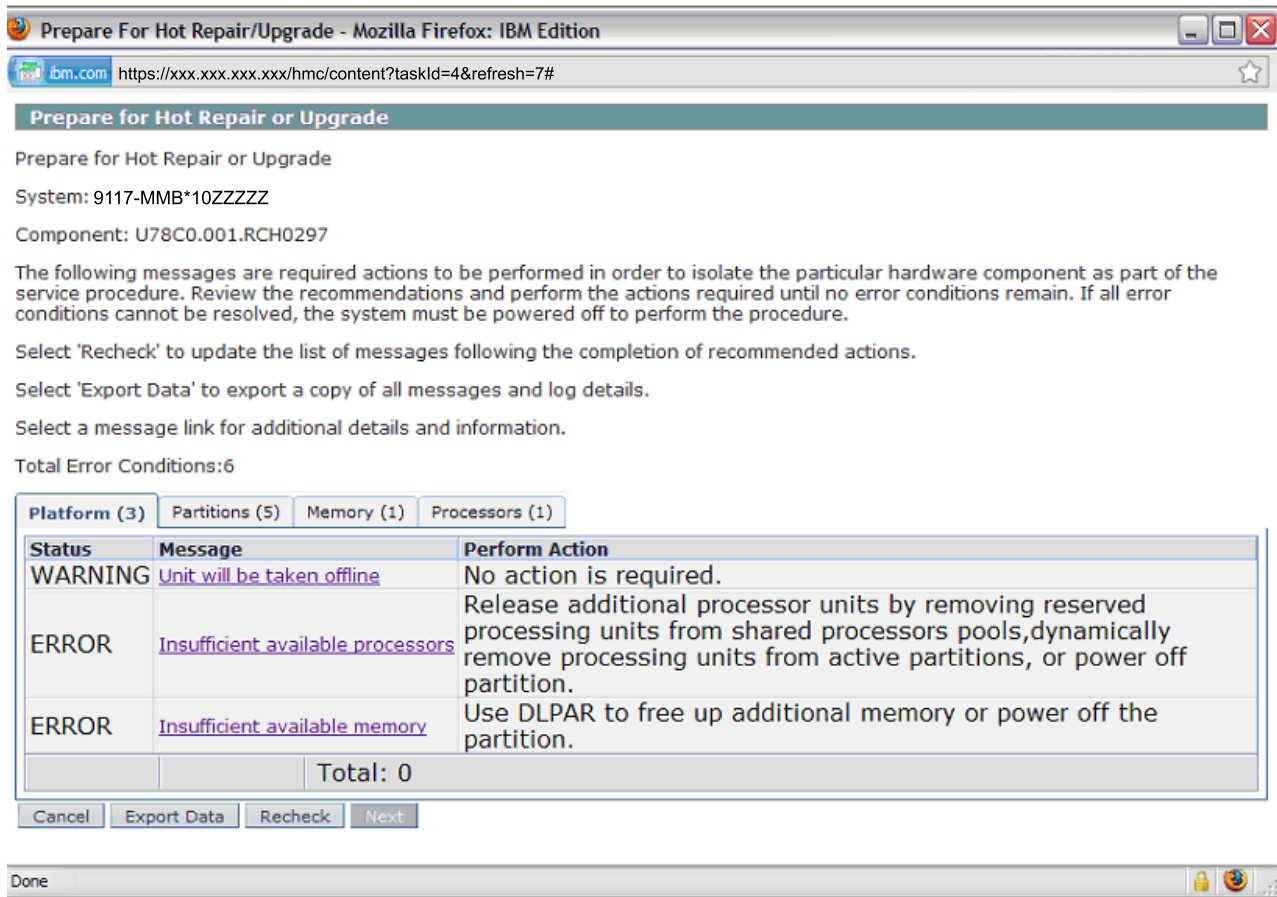

Figure 2. Prepare for Hot Repair or Upgrade Main window
- A window lists the set of actions that must be performed (prior to the CEC hot-node add and hot-node repair maintenance operation) for the node evacuation to be successful. An example of this window is shown in Figure 2 on page 16.